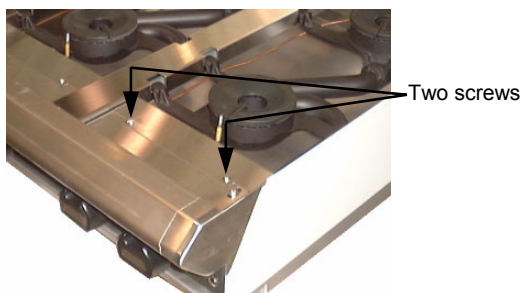

Figure 6.3.2
- 2) Remove heat shield (refer figure 6.3.2).